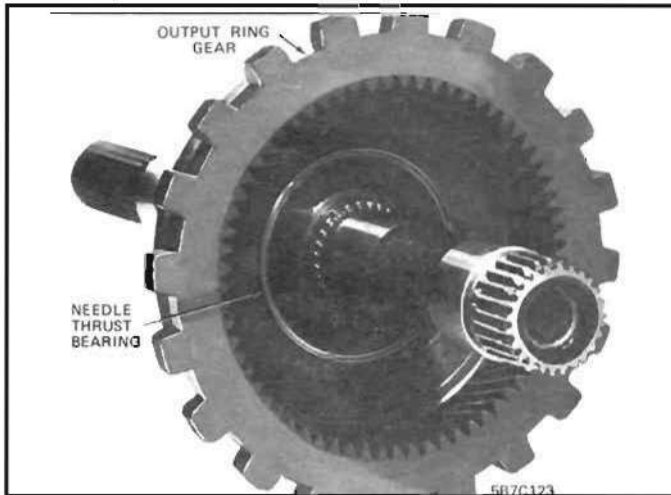

Figure 81 Needle Bearing Assembly
1. Install output ring gear to output shaft and output ring gear to output shaft snap ring. *See Figure 81.*
2. Install reaction carrier to output ring gear needle thrust bearing with lip side face up. *See Figure 81.*